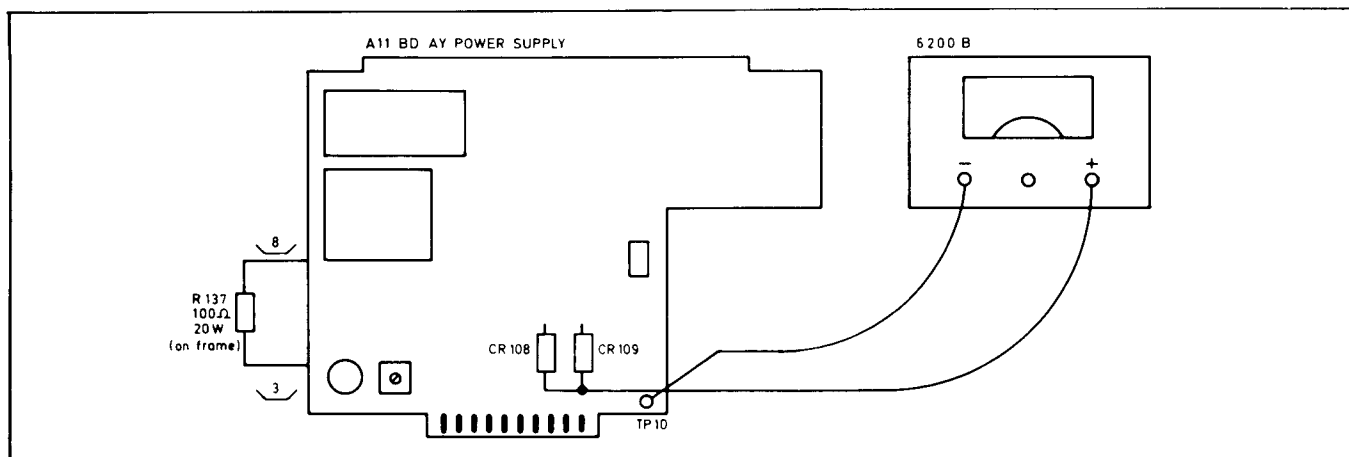

Figure 8-3-8. A11 Troubleshooting Setup
1. Using a 6200B power supply, set its voltage to +40 V, connecting the negative pole to TP8 and the positive pole to the junction of CR108/CR109 anode (see Figure 8-3-8). Leave R137 connected via the cable or connect an external resistor with the same value.